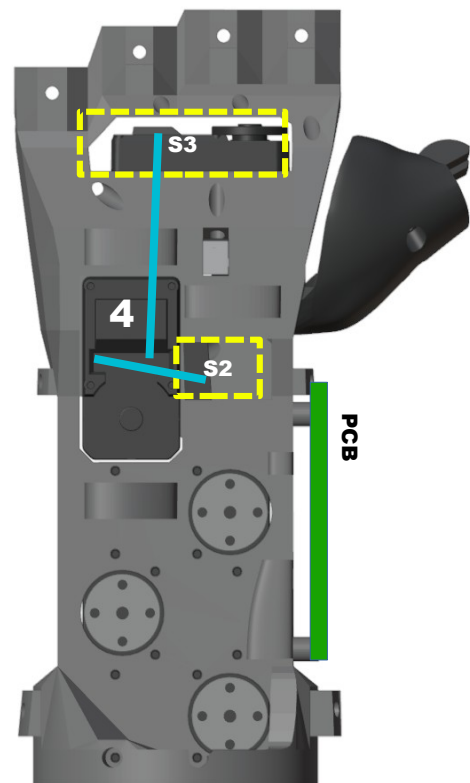

Figure 5.13: Rear view. ID Servomotors, logic board PCB and cavity S2 e cavita S2
1. Insert the finger into its slot on the skeleton (figure 5.13)